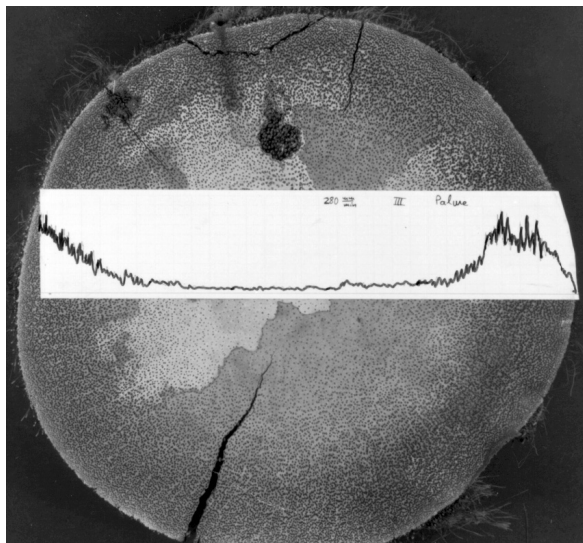
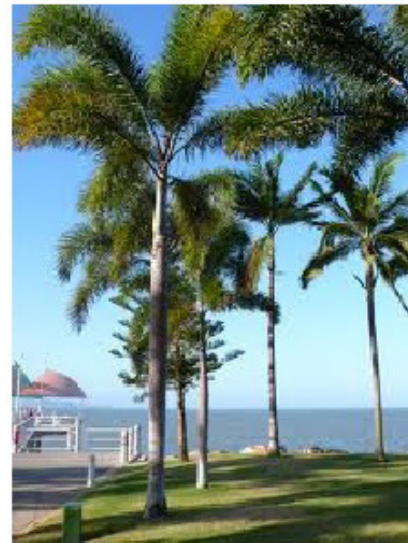

Figure 8
Figure 9
of structures: radial density profiles of coconut palms, for example, typically show significantly higher density on about 1/3 of the outer part of the radius (Fig 8). Thus, there must be a reason for this kind of internal mechanical design, otherwise, the evolutionary process would not have selected this concept. Interestingly, the ratio of total tree height (H) over diameter at breast height (D) and several other allometric properties of coconut palms are similar to those of slender conifer forest trees (Fig. 9) from